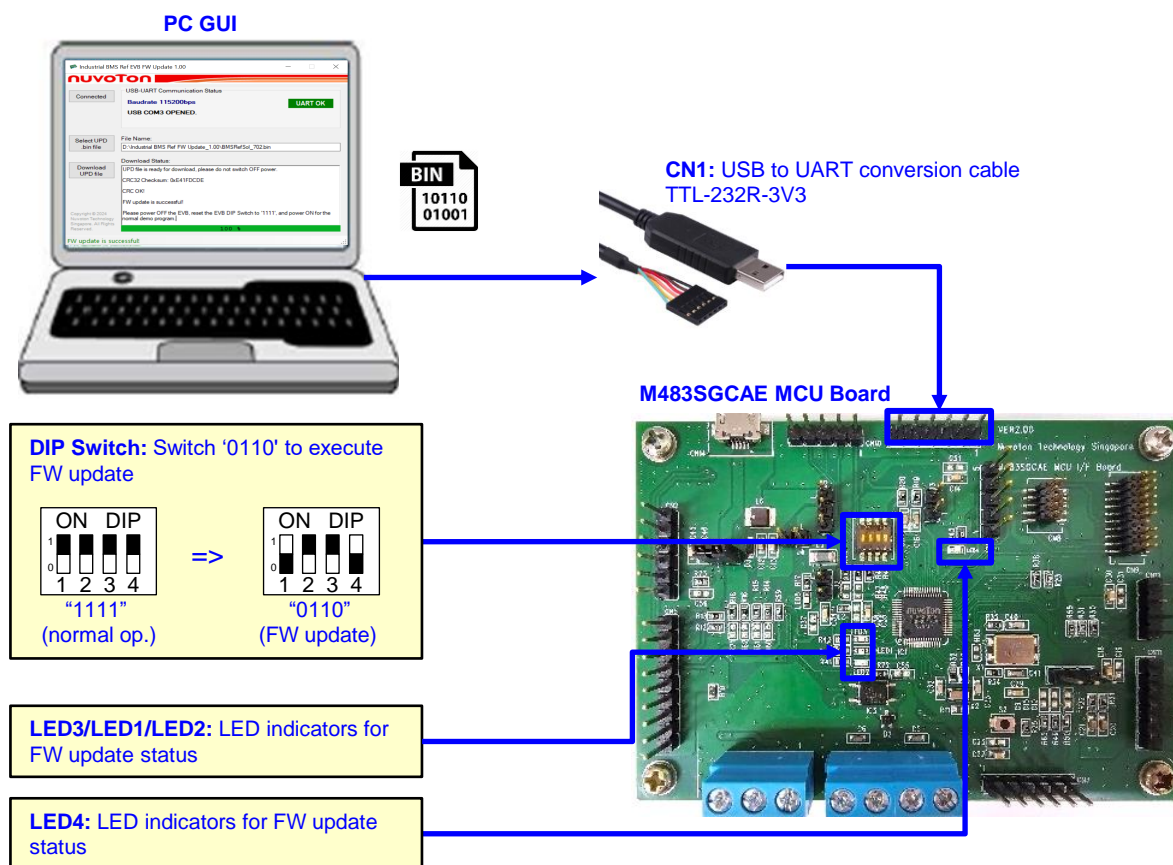

Figure 2. FW update settings and connections
The settings and connections is depicted in Figure 2.
Step 1) Do setting of DIP SW on MCU board refer to Figure 2, and then power up MCU board. Connect the MCU board to the PC using a USB-UART conversion cable.